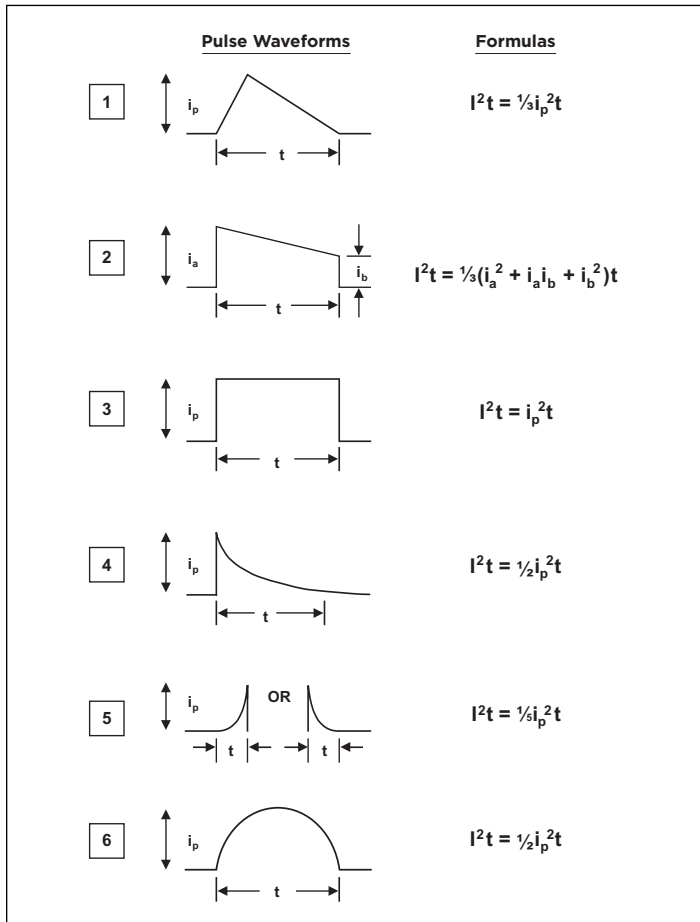

Figure 3. Waveform I^2t Formulas
Figure 3 presents the most common current waveforms and simplified equations for their I^2t . In most systems, current waveforms could be approximated as either one of those on Figure 3 or their sequence. In case of such a sequence the resulting I^2t is the sum of I^2t of those individual waveforms.
- Step 2—Determine which pulse waveform in Figure 3 most closely represents the application and calculate the waveform’s I^2t value.
like that of waveform #4 in Figure 3. Using the associated formula, the I^2t value is calculated as: